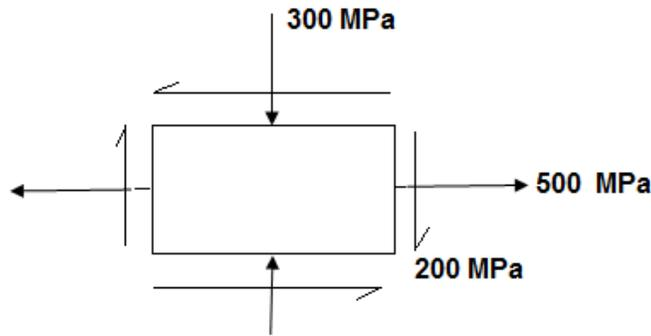

Fig. 1
b) Deduce the relationship among three constants namely Elastic Modulus (E), Poisson's Ratio( $\rho$ ) and Bulk Modulus(k).
5. a) The biaxial state of stress on an element is shown in Fig. 1. Using Mohr's Circle, determine